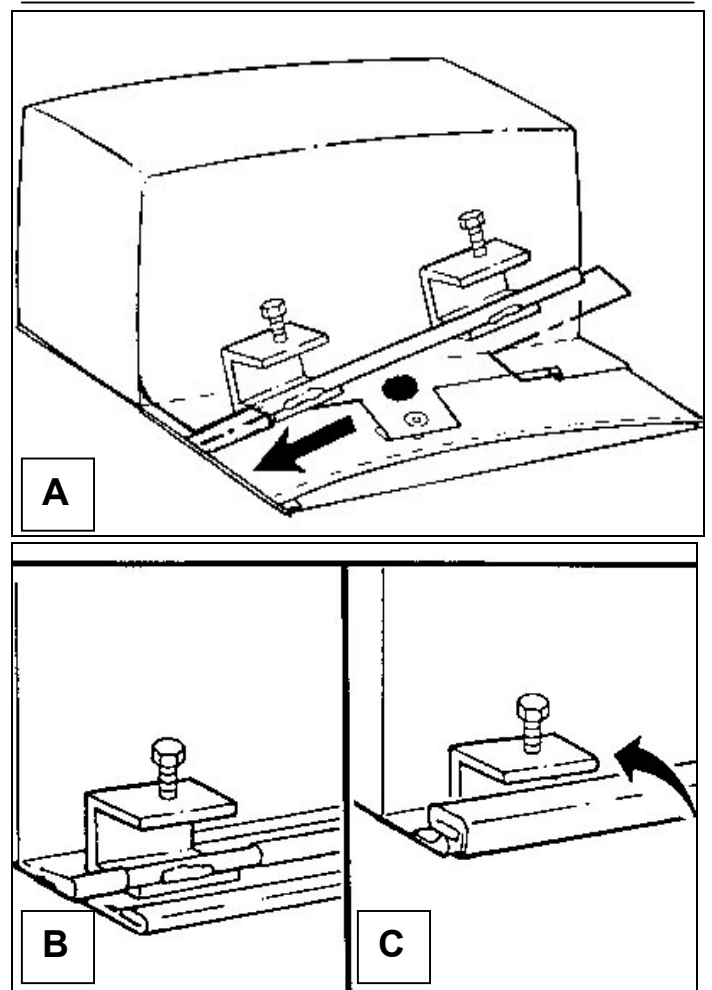

FIGURE 2
STEP 1; SEE FIGURE 2-A:
STEP 2; SEE FIGURE 2 & 3: